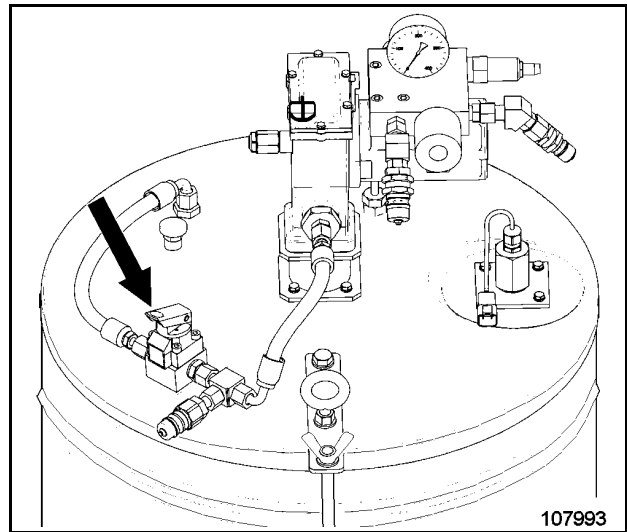

Fig. 3-150:
- Detach plate (2, Fig. 3-148:). The grease drum is accessible then (Fig. 3-150:).
- Depressurize grease lines by pressing down lever (arrow, Fig. 3-150:).